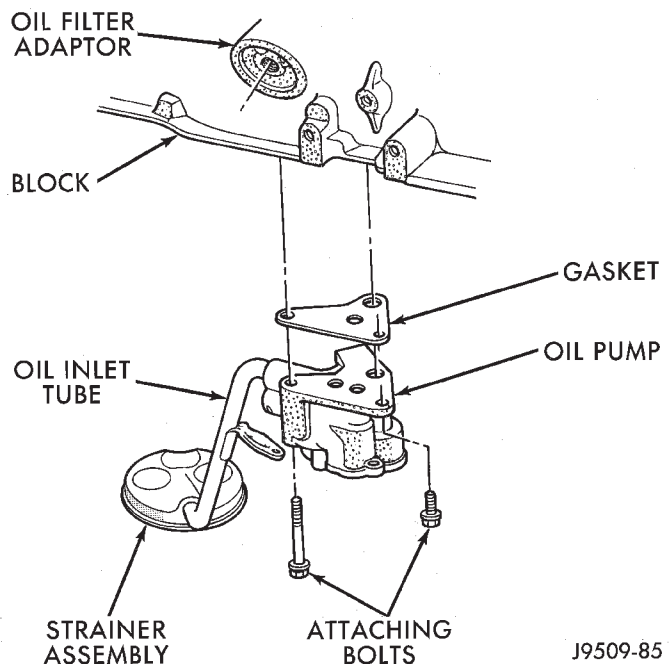

Fig. 52 Oil Pump Assembly
- (1) Drain the engine oil.
- (2) Remove the oil pan.
- (3) Remove the pump-to-cylinder block attaching bolts. Remove the pump assembly with gasket (Fig. 52).